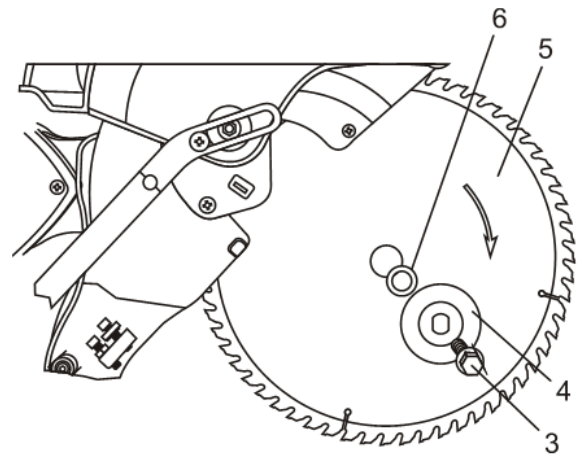

Fig. 35
1. Place the blade screw bushing (6) on the arbor (Fig. 35).
2. Place the blade (5) on the arbor.